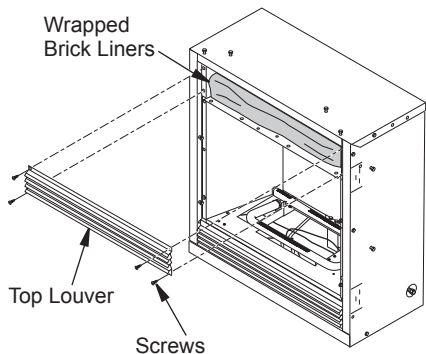

Figure 2 - Removing Brick Liners
1. Remove screws from top louver and carefully remove louver (see Figure 2).